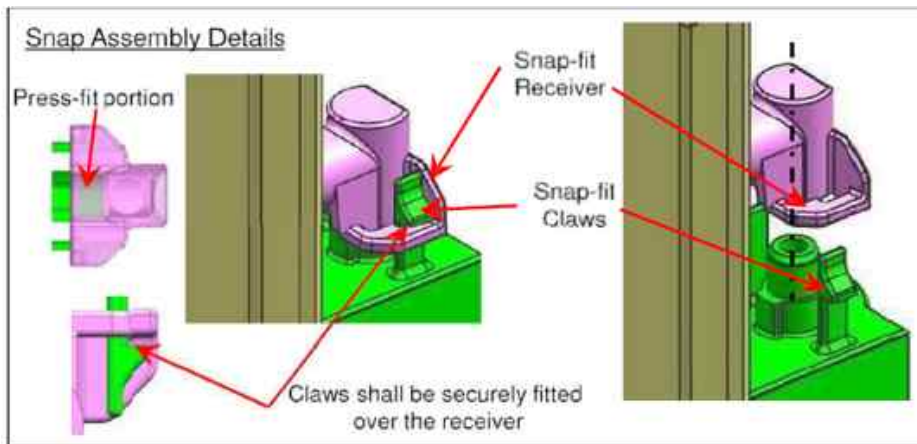

Figure 1
1. Remove the dust cap from the Filter as shown in Figure 1.
- A. - Make sure that the snap-fits are securely fitted. Refer Figure 1 for "Snap Assembly details".